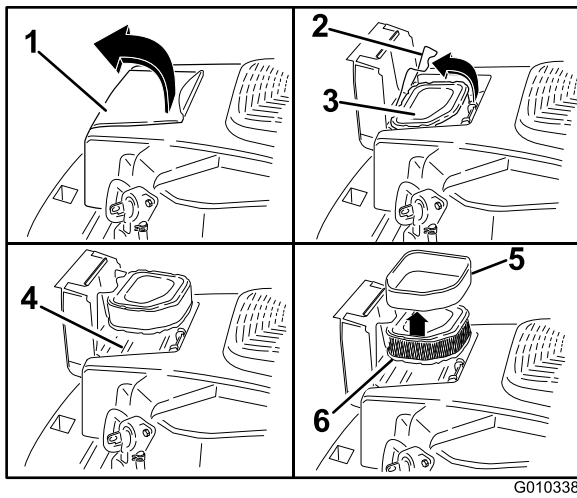

Figure 34
1. Open the air cleaner cover door on the blower housing to access the air cleaner element (Figure 34).
2. Unhook the latch and remove the air cleaner (Figure 34).